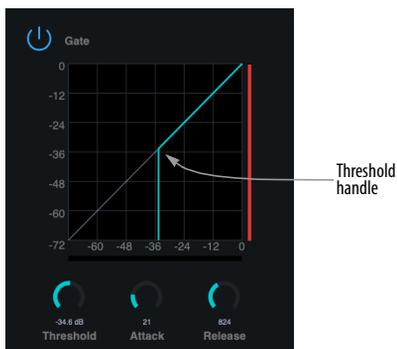

Figure 6-1: The Gate.
Mic/line/inst channels 1-2 (item 1 on page 48) provide a *Gate* (Figure 6-1).